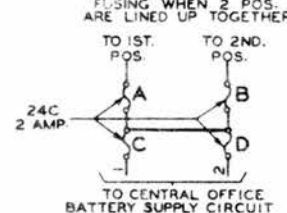

FIG. 5
- 1.3 The battery key shown in Fig. 5 is provided for one position where local battery is used and fuses are accessible for replacement.